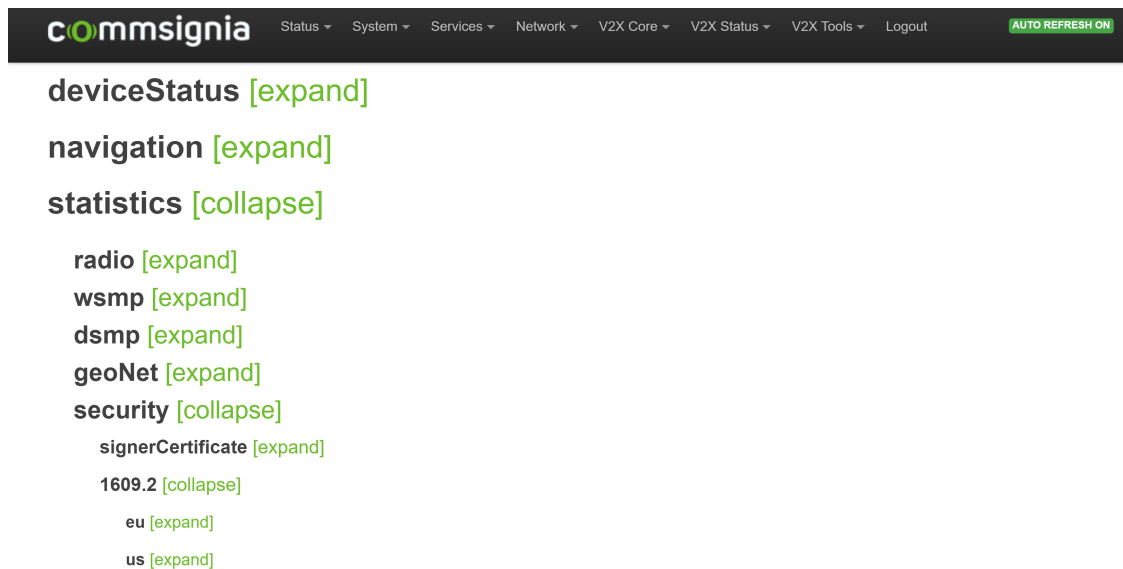

Figure 41. Statistics for secured messages
6. To verify that the outgoing V2X messages are automatically signed before they are sent, open the **V2X Core** → **Core status** menu item, as shown in Figure 41, expand **statistics**, expand **security**, and expand **1609.2**. To access the counters, expand the appropriate region (**eu/us**) under this item. The transmission of secured messages can be verified by the increase of the value of the `txSignedPacket` counter.